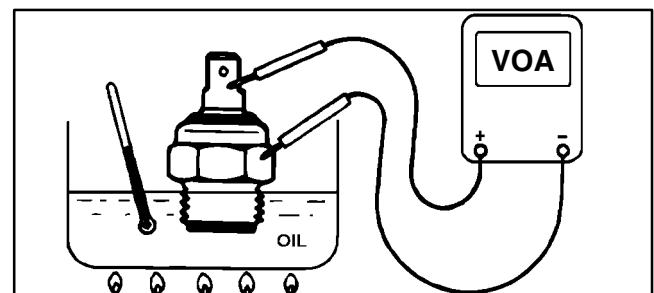

Figure 16
2. Put switch in a container of oil with a thermometer and slowly heat the oil (Fig. 16).